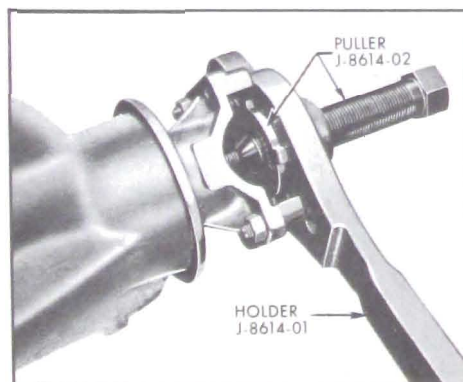

Fig. 6-15—Removing Pinion Flange
3. Pull pinion flange from pinion using Puller J-8614-02 in Holder J-8614-01. To install puller, back out puller screw, insert puller through holder, and rotate 1/8 turn. See Figure 6-15.